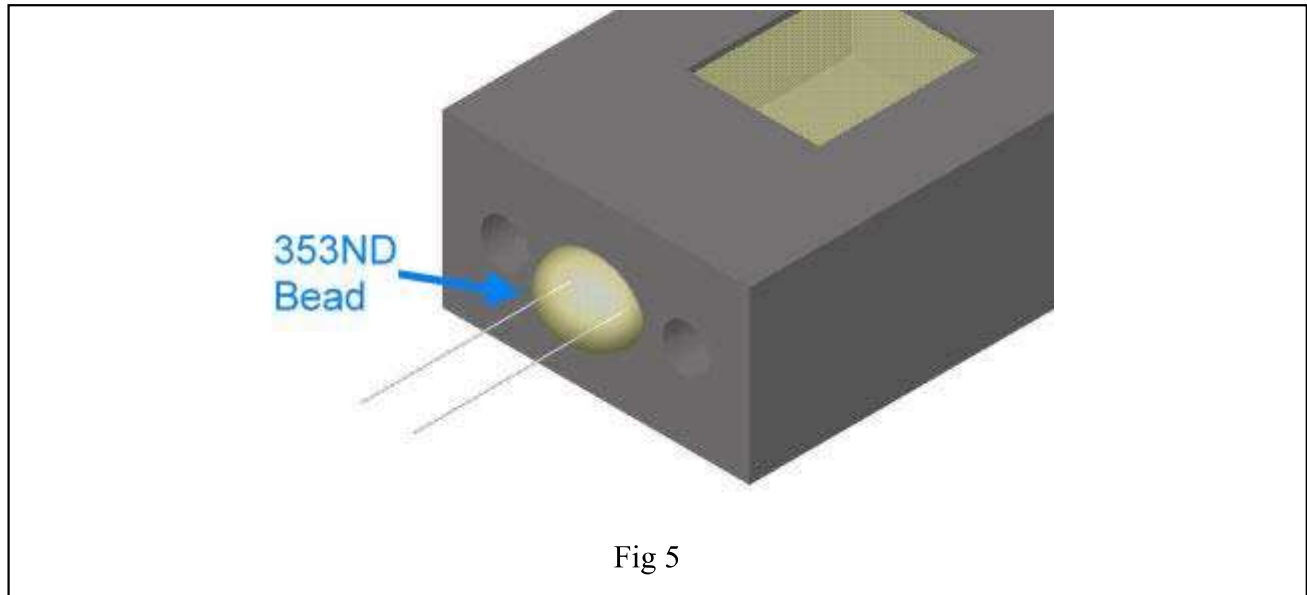

Fig 5
Step 5 Slide the fiber gently in and out of ferrule to form the EPO-TEK 353ND bead on the end of ferrule. Apply a drop of EPO-TEK 353ND on the tip of ferrule to form the EPO-TEK 353ND bead. See Fig. 5.